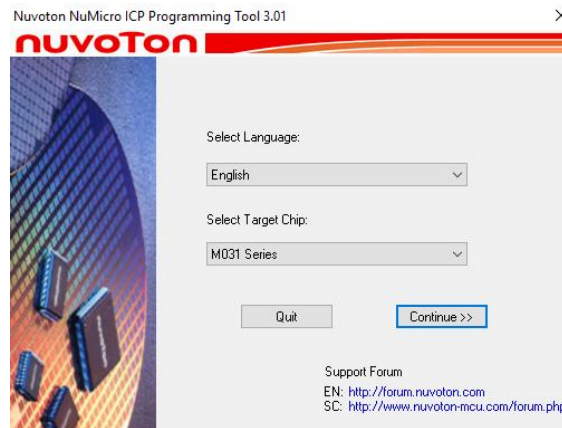

Figure 4-3 Startup Screen of ICP Tool
Step 2: Open the ICP Tool, specify the **UI language** and **target chip**, and then click **Continue**, as shown in Figure 4-3.